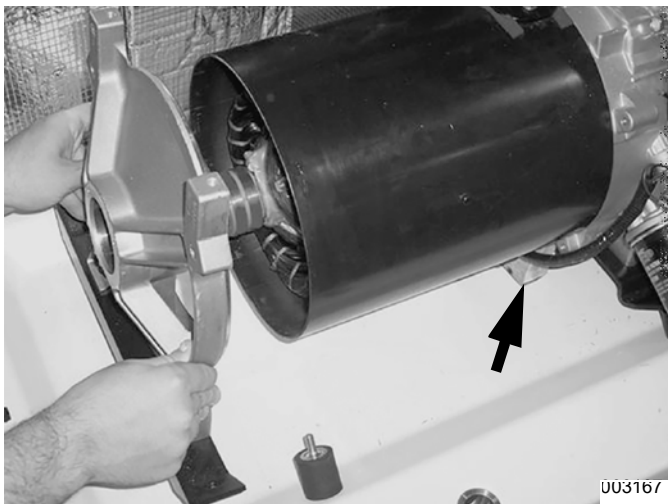

Figure 5-57.
25. See Figure 5-57. Lift the back end of the alternator up and place a 2"x 4" piece of wood under the engine*.